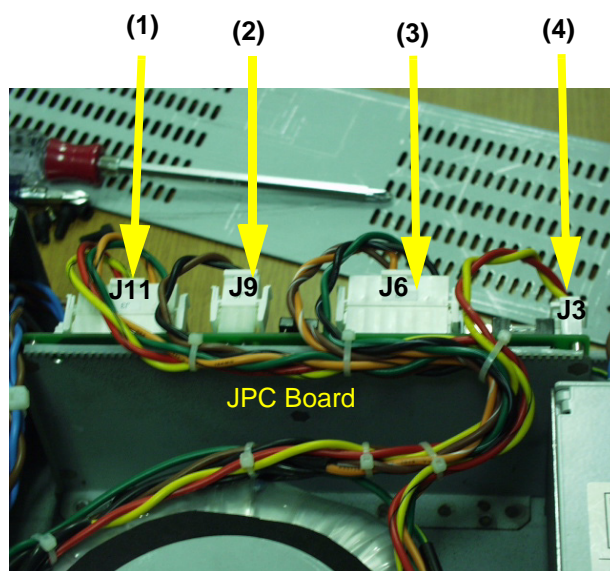

Figure 8-179 Disconnecting 4 connectors
- 3.) Disconnect four (4) connectors (1-4, J3, J6, J9, J11). Refer to Figure 8-179..